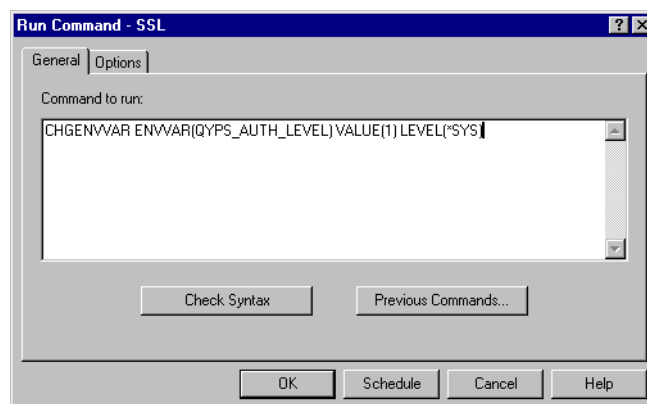

Figure 172. Create Run Command
6. For Command to run, specify the following command (Figure 172):